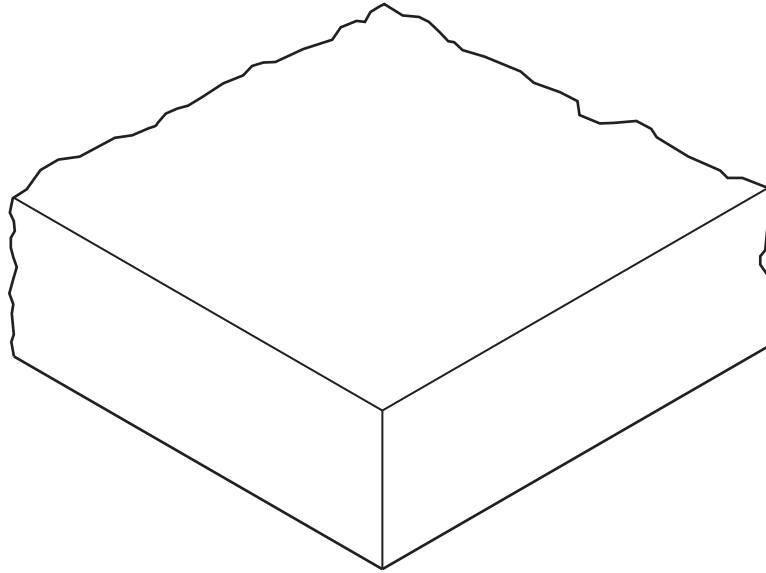

Fig. 1.1
- 1 Draw on Fig. 1.1 to show the construction of blockboard.